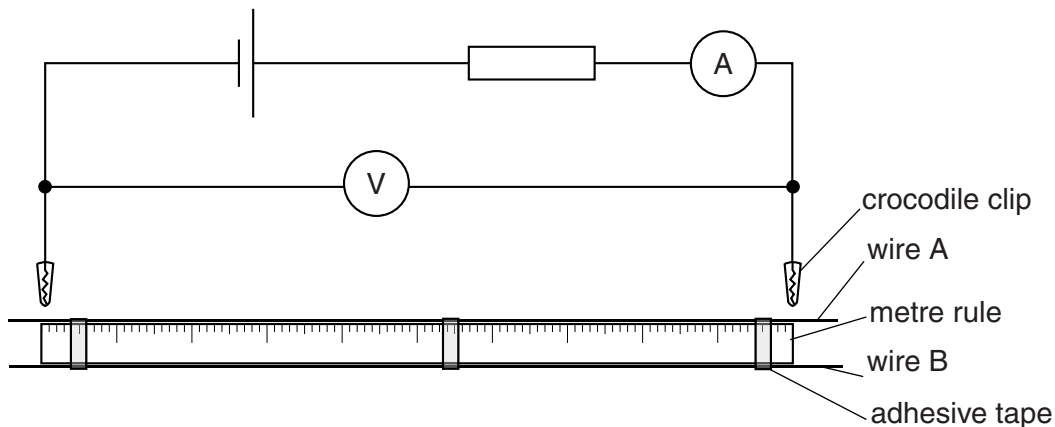

Fig. 2.1a
Six connecting leads to enable the Supervisor to set up the circuit shown in Fig. 2.1a (see Note 6).
7. At the changeover, the Supervisor should check that the circuit is set up as in Fig. 2.1a with the crocodile clips disconnected from the resistance wire. If a cell is used, it should be checked and replaced if necessary.